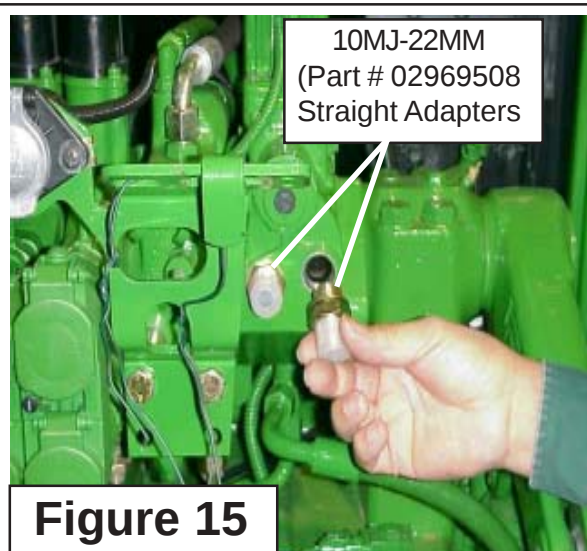

Figure 15
3. Install Straight Adapters. The Plugs will be replaced with the two Straight Hydraulic Adapters 10MJ-22MM (Part #02969508), tighten these Adapters to proper torque now but leave plastic caps on them (**See Figure 15**). See Chart on Page 5-10 to torque specs.